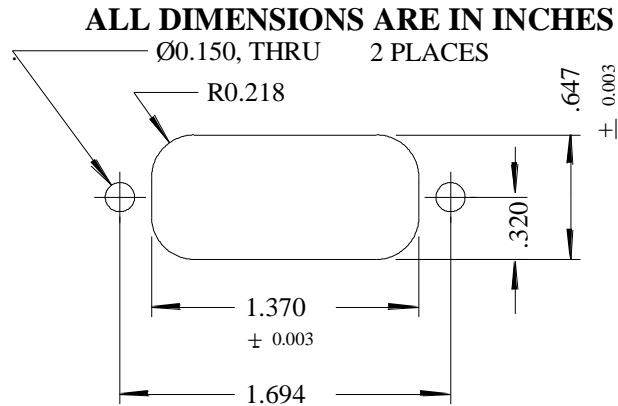

FIGURE 1. PANEL MOUNTING HOLE
1.) The holes on the panel to be mounted should be pre-punched to the size as shown in Figure 1.